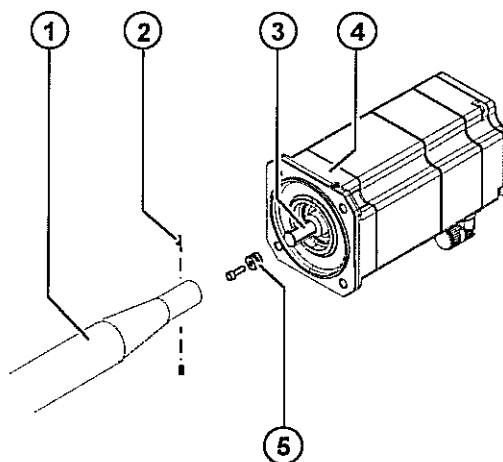

Fig. 12-15: Motor with connecting shaft
1. Remove all protective coatings and oil from the new motor A5 (>>> Fig. 12-15).